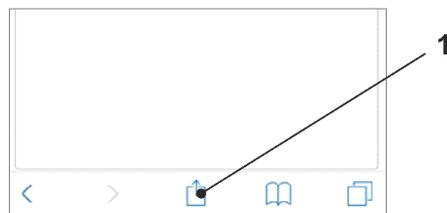

Fig. 26-14 Set up link
8. To set up a link on the Home screen (for direct access), tap the "Provide" icon (Fig. 26-14 Pos. 1).